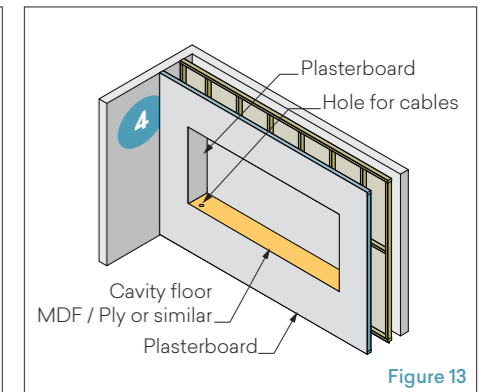

Figure 13
4. Finish the wall off using plasterboard or timber board on the wall panels and timber board on the cavity floor. (Figure 13)